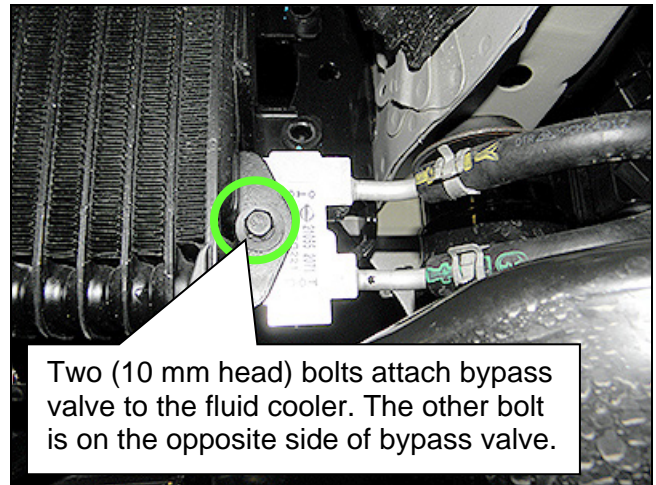

Figure 1
- Unbolt and disconnect the external CVT fluid cooler bypass valve from the external CVT fluid cooler (Figure 1).